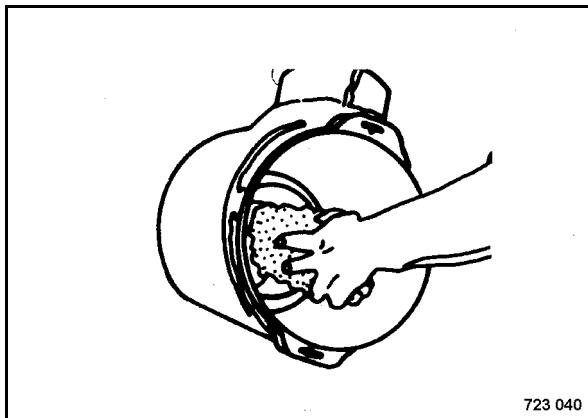

Fig. 137
- Thoroughly clean the inside of the outlet tube (Fig. 137) and the filter housing.